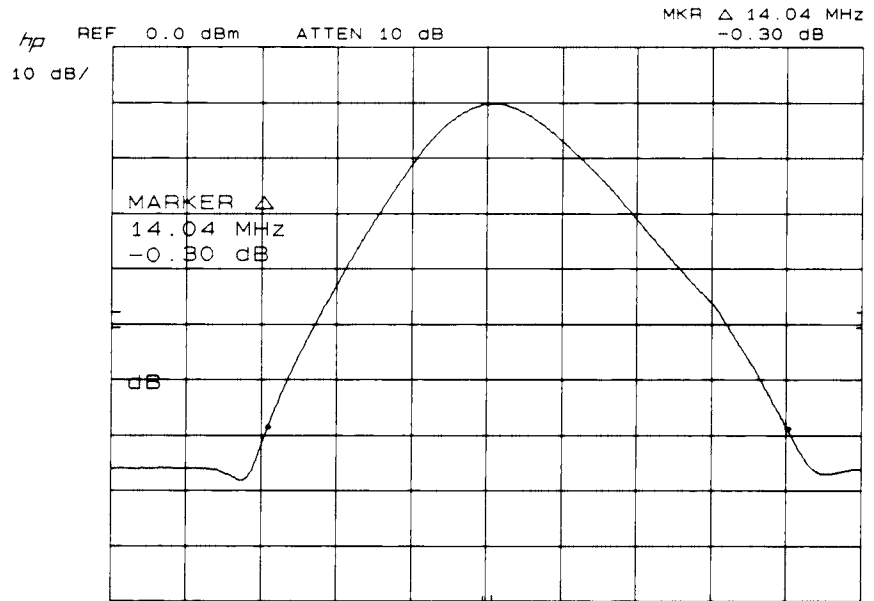

Figure 4-4. 60 dB Bandwidth Measurement
4. Press **MARKER NORMAL** and position marker at peak of signal trace. Press **MARKER Δ** and position movable marker 60 dB down from the stationary marker on the positive-going edge of the signal trace (the **MARKER Δ** amplitude readout should be $-60.00 \text{ dB} \pm 1.00 \text{ dB}$). It may be necessary to press **SWEEP CONT** and adjust **CENTER FREQUENCY** so that both 60 dB points are displayed. (See Figure 4-4.)
6. Read the 60 dB bandwidth for the 3 MHz resolution bandwidth setting from the **MARKER Δ** frequency readout (Figure 4-4) and record the value in Table 4-4.